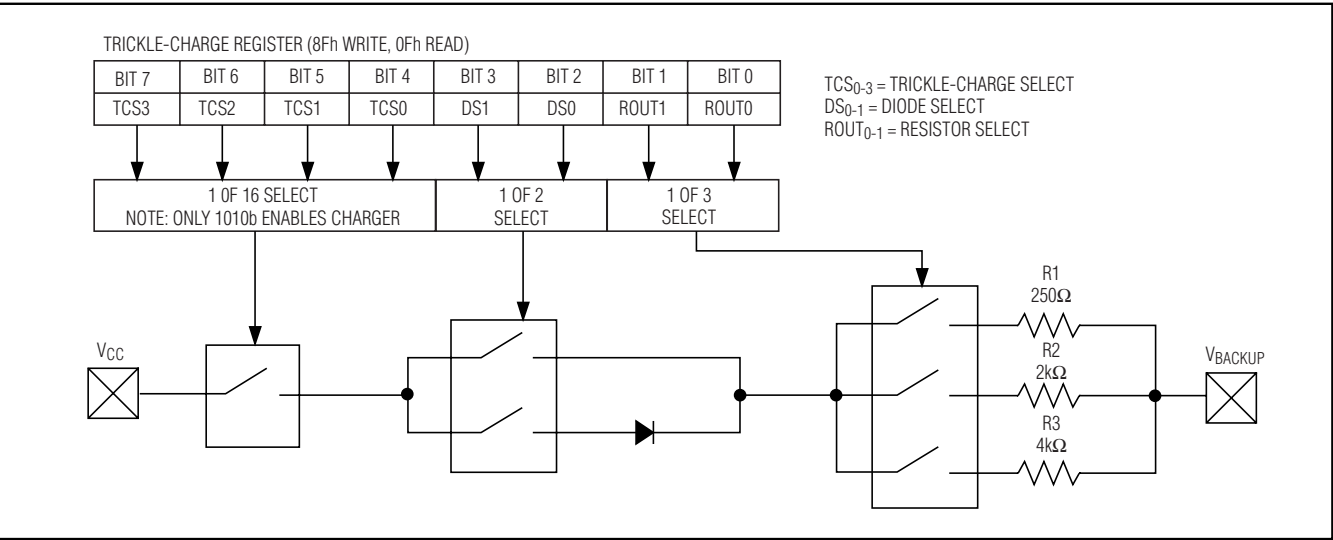

Figure 9. DS1390/DS1391 Programmable Trickle Charger
The simplified schematic in Figure 9 shows the basic components of the trickle charger. The trickle-charge select (TCS) bits (bits 4 to 7) control the selection of the trickle charger. To prevent accidental enabling, only a pattern on 1010 enables the trickle charger. All other patterns disable the trickle charger. The trickle charger is disabled when power is first applied. The diode-select (DS) bits (bits 2 and 3) select whether or not a diode is connected between VCC and VBACKUP. If DS is 01, no diode is selected or if DS is 10, a diode is selected. The ROUT bits (bits 0 and 1) select the value of the resistor connected between VCC and VBACKUP. Table 5 shows the resistor selected by the resistor-select (ROUT) bits and the diode selected by the diode-select (DS) bits.